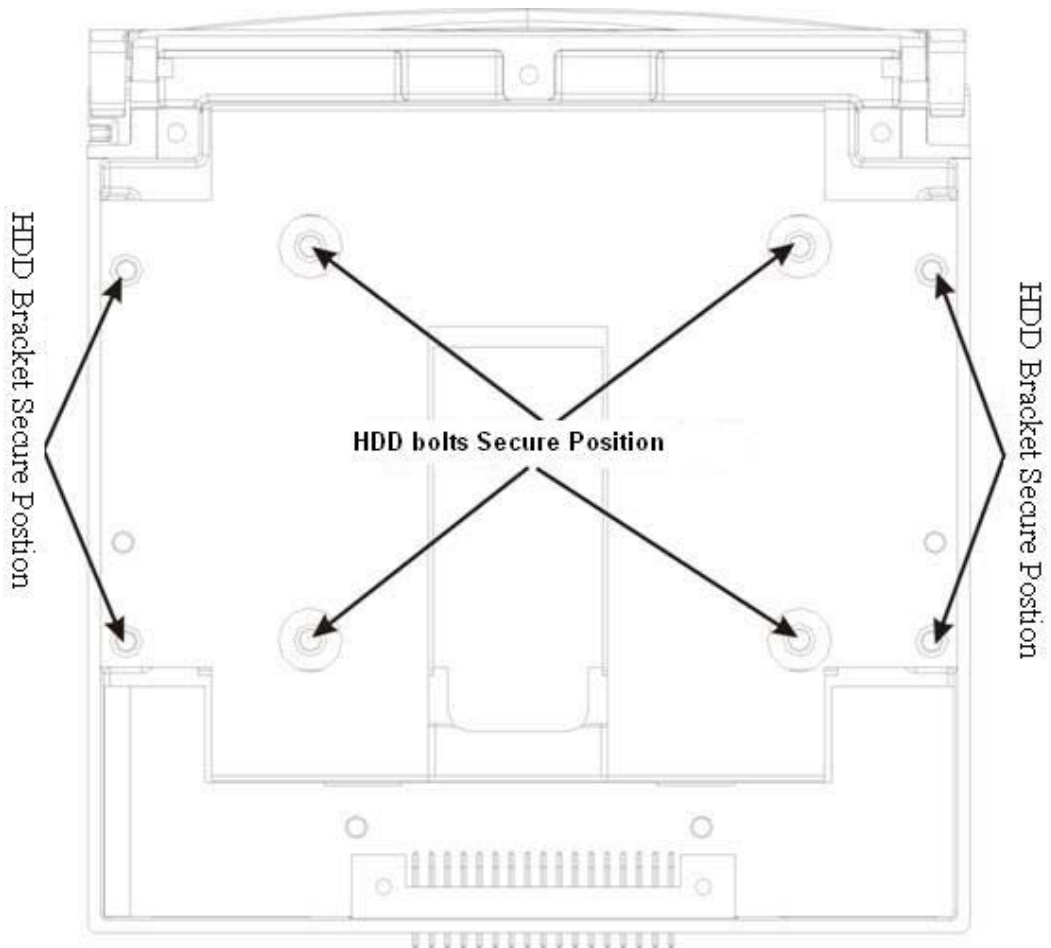

Figure 3-2
2) Now you can see an interface shown as in Figure 3-2 . Remove the four bolts from the HDD bracket and then draw out the bracket from the HDD box. Pull out the cable from the cable exit.
Video output includes a BNC(PAL/NTSC BNC (1.0VP- P, 75Ω) output and a VGA output. System supports BNC, VGA and HDMI output at the same time. See Figure 3-2